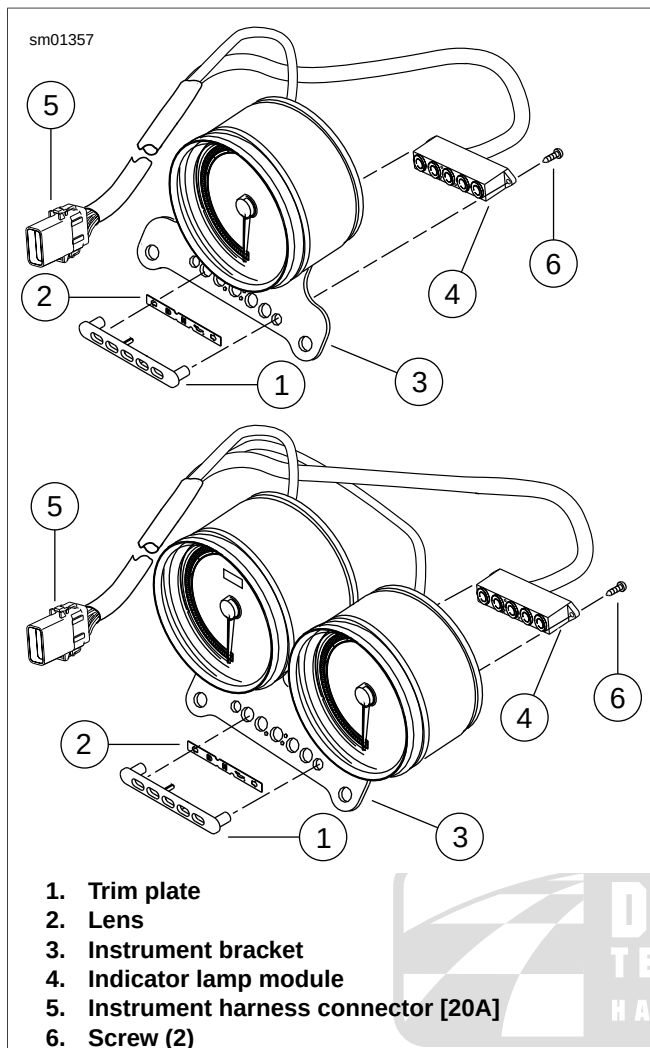

Figure 6-61. Indicator Lamps: All Single and Dual Gauge Models Except XL 883C/XL 1200C/XL 1200L/XL 1200N
2. See Figure 6-61. Holding instrument bracket (3), remove two screws with lock washers securing instrument bracket to handlebar risers.
3. Remove two screws (6) to separate indicator lamp module (4) from instrument bracket, trim plate (1) and lens (2).
8. See Figure 6-61. Assemble trim plate (1), lens (2) and indicator lamp module (4) onto instrument bracket (3). Secure with two screws (6).